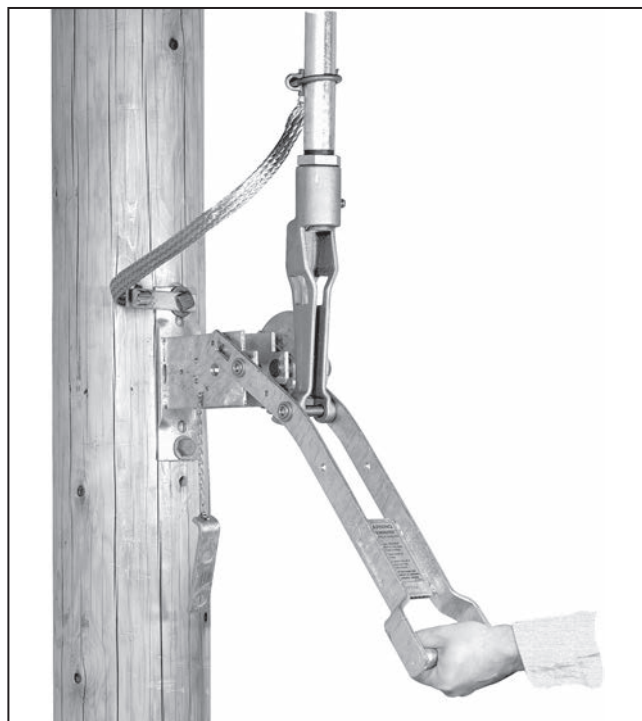

Figure 32. Verifying the slack has been taken up in the operating linkage.
STEP 30. Move the operating handle *slowly* to the **Closed** position. See Figure 32. A definite resistance should be felt at the end of the stroke, indicating that all slack in the operating linkage has been taken up.